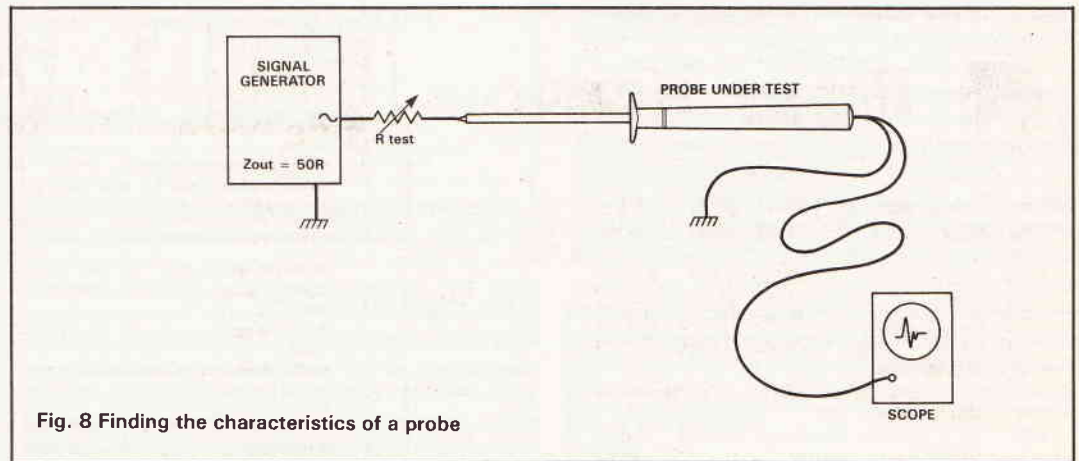

Fig. 8 Finding the characteristics of a probe
An easy way to check the characteristics of unspecified probes is to rig the test circuit shown in Figure 8. The signal generator must be known to have a low output impedance compared with everything else in the test setup. The amplitude of the signal is measured on the 'scope with the variable resistor at minimum value (OR), and the variable resistor is then adjusted until the 'scope shows a reduction of 50% in peak-to-peak amplitude. The value of the variable resistor is then nominally equal to the probe impedance at that frequency. This does not take account of stray effects in the test rig: most multi-turn miniature trimpots have quite a lot of capacitance to ground, and the big precision wirewound ones are quite inductive. It will, give you an adequate guide to your probe performance. As the effect is a continuous function, you should be able to plot a satisfactory graph, and then use this to assess the intrusiveness of your measuring system. If you are being really particular, you would use a set of non-inductive fixed resistors instead of the variable resistor. A resistance substitution box would do the trick at lower frequencies, but a specially designed one would be needed to minimise the C and L of the switches and wiring.